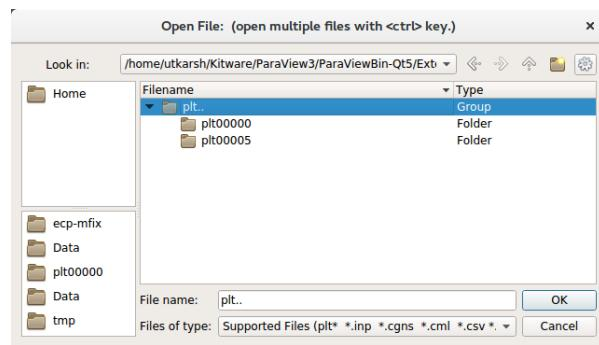

Fig. 16.2: : File dialog in ParaView showing a group of plotfile directories selected
1. Run ParaView v5.5, and select then “File” → “Open”. You will see a combined “plt..” group. Click on “+” to expand the group, if you want inspect the files in the group. You can select an individual plotfile directory or select a group of directories to read them a time series, as shown in Fig. 16.2, and click OK.